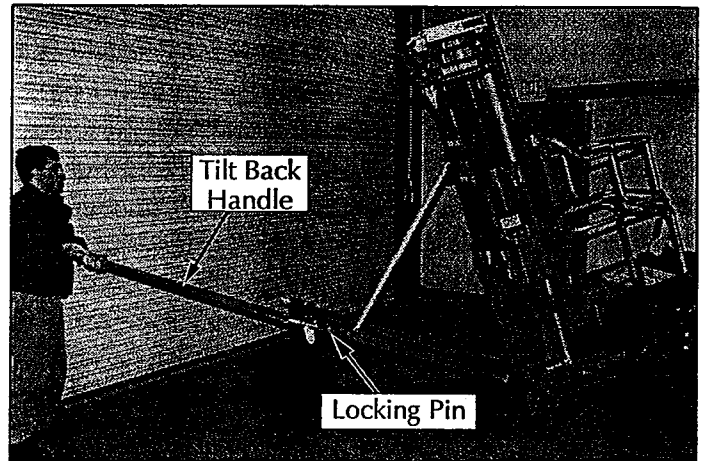

Figure 3-12: Lowering and raising with Tilt Back Handle
4. Extend Tilt Back Handle to the tilt/lift position by releasing locking pin and pulling handle out of the Tilt Back assembly until the locking pin engages (fig. 3-12).
5. Push down on the Tilt Back Handle until the unit comes to rest on the Tilt Back frame. As the mast tilts back, counterbalance the machine's weight by increasing upward force on end of Tilt Back Handle (fig. 3-12). This allows machine to gently come to rest on Tilt Back casters.
3. Lift up on the Tilt Back Handle. As the mast approaches vertical, counterbalance machine's weight by increasing the downward force on end of Tilt Back Handle (fig. 3-12). This allows machine to settle gently on the front casters.